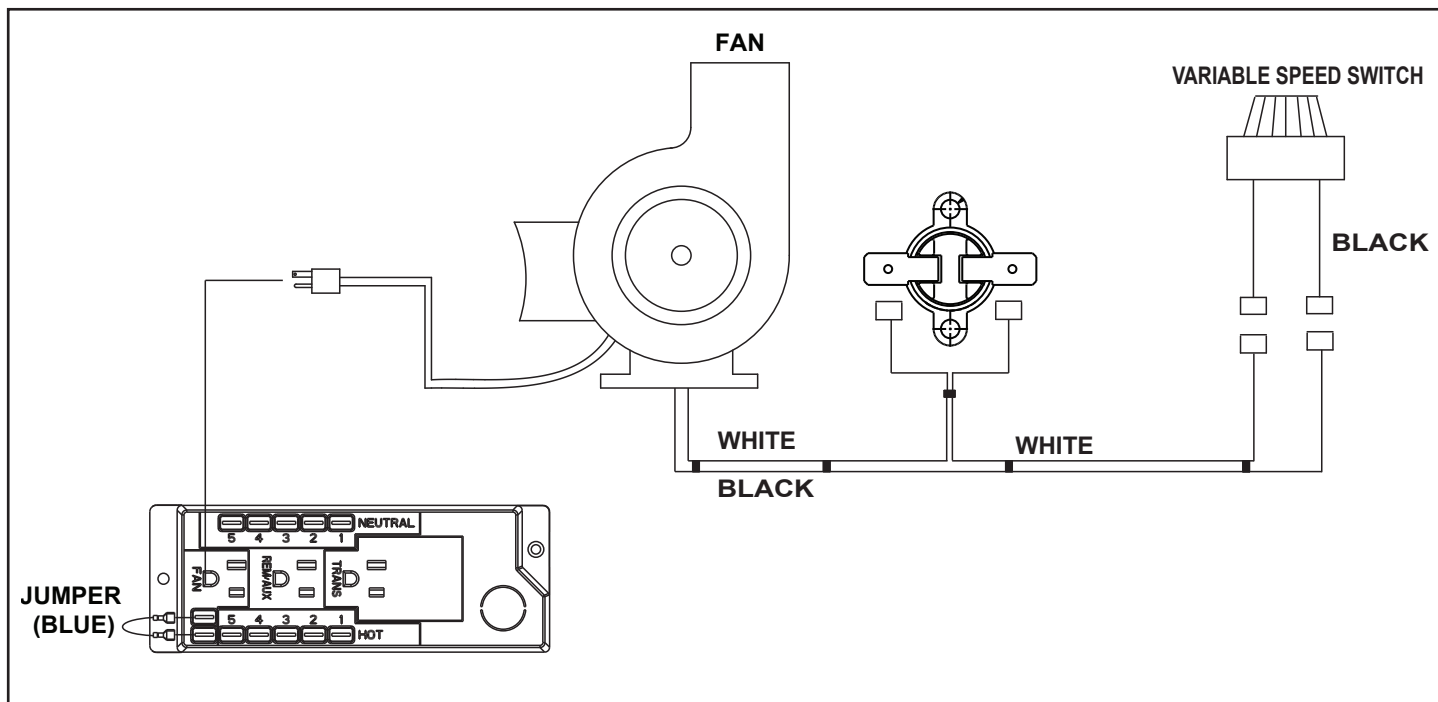

Figure 8.9 - Fan Wiring Diagram
- Install the speed control (rheostat). The speed control mounts to the right rear corner of the component tray. Insert the stem of the speed control through the hole located on the right side of the cover. Secure with the pal nut using an 11/16 in. (17.5 mm) wrench. Attach the black and white wires routed under the appliance indicated in Figure 8.9 (wiring diagram), to the variable speed switch wires. Use the blue jumper wire provided in the appliance component bag to make the connection on junction box terminals as shown in Figure 8.9. Push the speed control knob onto the stem. Secure any extra wire up and out of the way using the zip tie provided.
- Plug the fan into the receptacle labeled "FAN" on the junction box. See Figure 8.9. The blower will not run until the appliance has heated up enough to activate the snap disc. This can take up to 15 minutes depending on the temperature of the room. Likewise, the blower will not automatically turn off until the appliance has cooled off enough to turn off the snap disc.